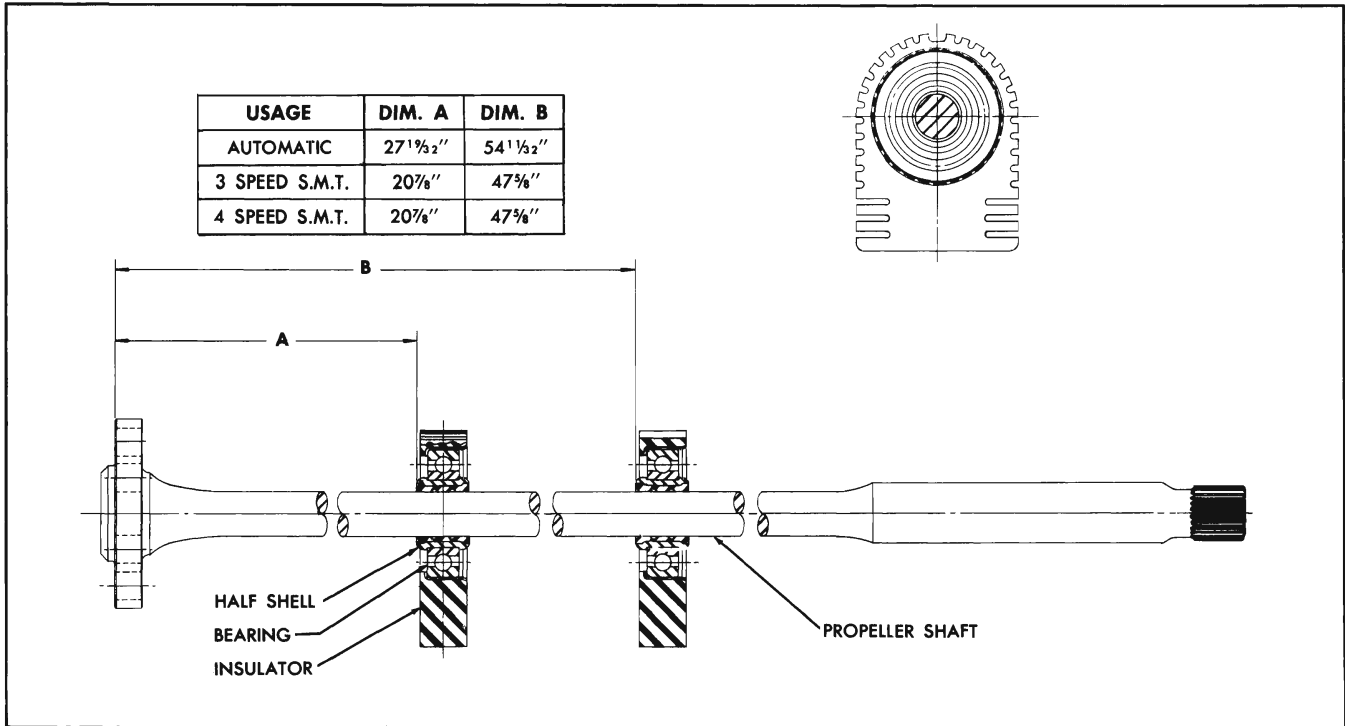

Fig. 4-21 Location of Bearings on Shaft
1. Position bearings and insulators on shaft, as shown (Fig. 4-21).